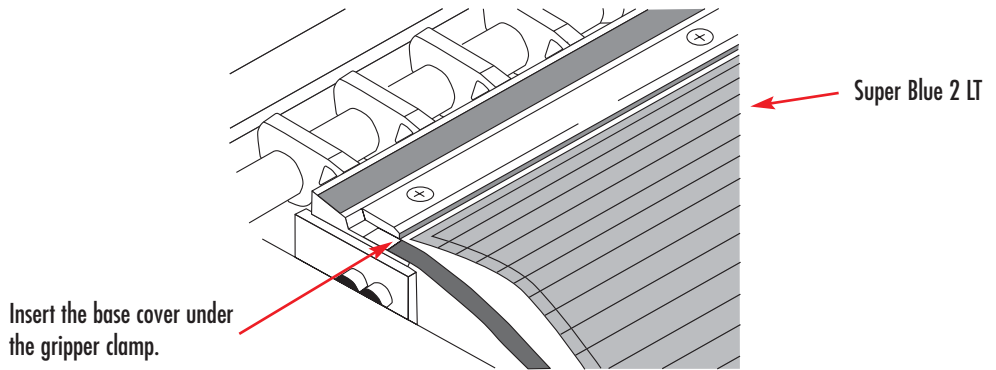

Figure 2
6. Insert the Super Blue[®] LT™ system under the gripper clamping bars approximately 1/8" to 3/16". Be sure that the Super Blue[®] LT™ system is centered on the transfer cylinder and tighten the flat head screws. (See Figure 2.)